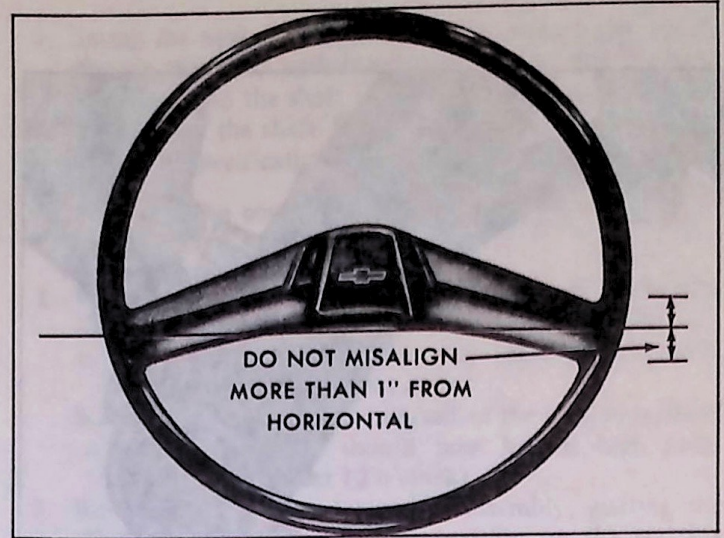

Fig. 3—Steering Wheel Alignment
2. Check the steering wheel position; if off more than one inch from horizontal (fig. 3), remove the steering wheel (see "Steering Wheel-Removal") and reposition.